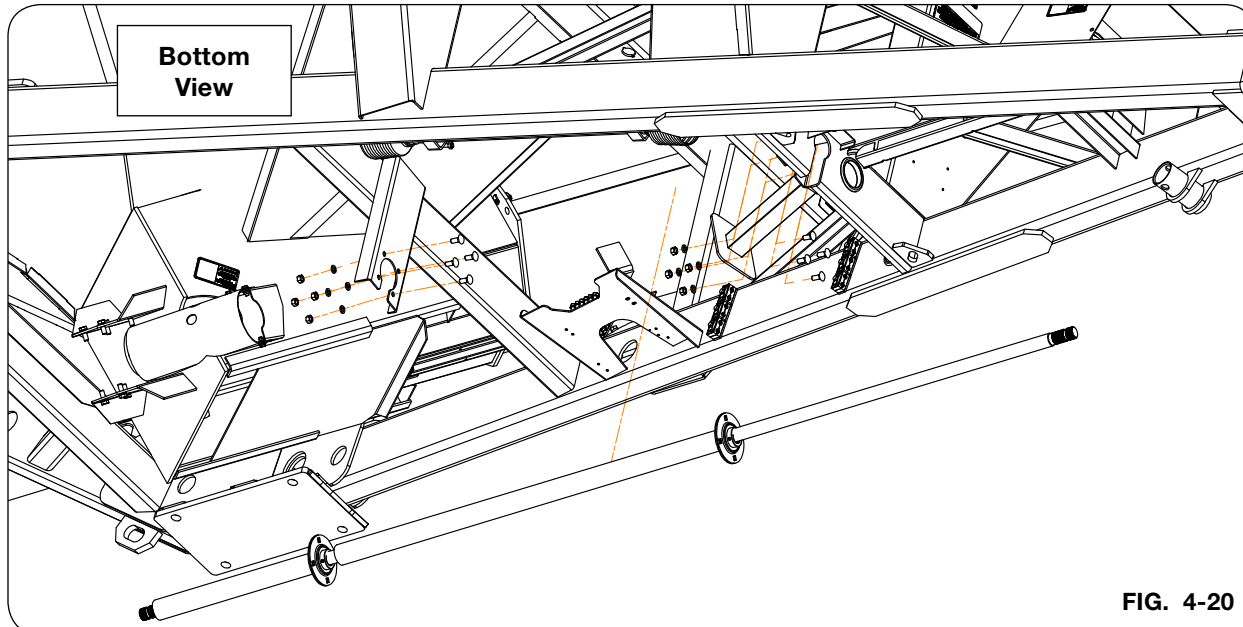

FIG. 4-20
2. Loosen the setscrews on the three flange bearings (9005061) (FIG. 4-20).
3. Remove the 1/2" carriage bolts (9388-103), flange nuts (9394-010), and lock washers (9404-025) holding the flange bearings. Keep hardware. (FIG. 4-20).